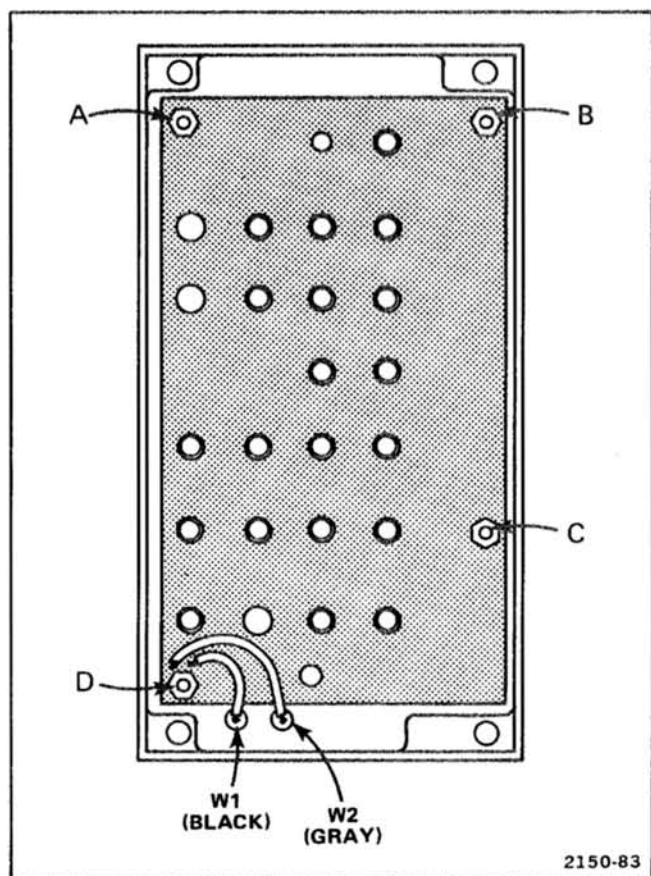

Figure 4-7. Locations of hex securing spacers and wiring to be disconnected on A1 Formatter Keyboard circuit board.
2. Disconnect 2 wires (W1 and W2 on Fig. 4-7). Remove 4 hexagonal spacers (A, B, C, and D on Fig. 4-7) and lift board away from front sub-panel.